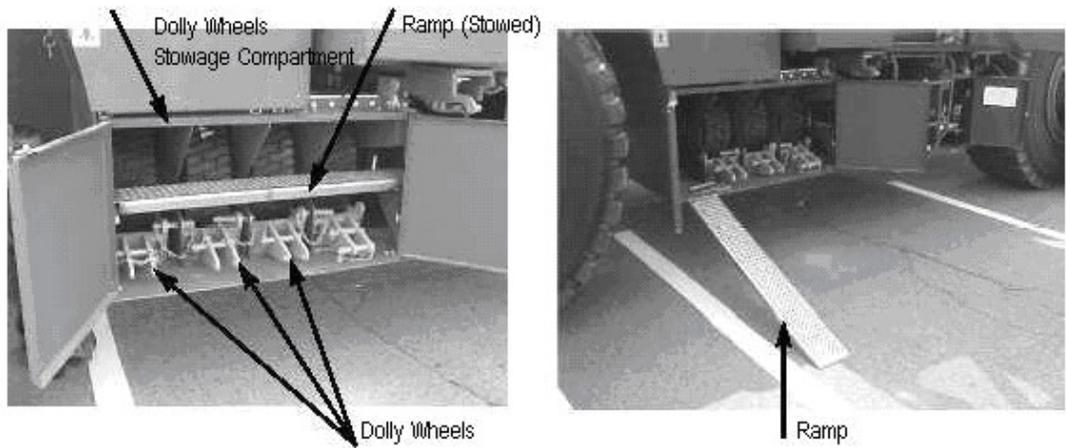

Figure 3-164
h. Open dolly wheels storage compartment and remove ramp from stowage and then position against storage compartment. When installed, front and rear dolly wheels are turned toward each other (see Figure 3-164).